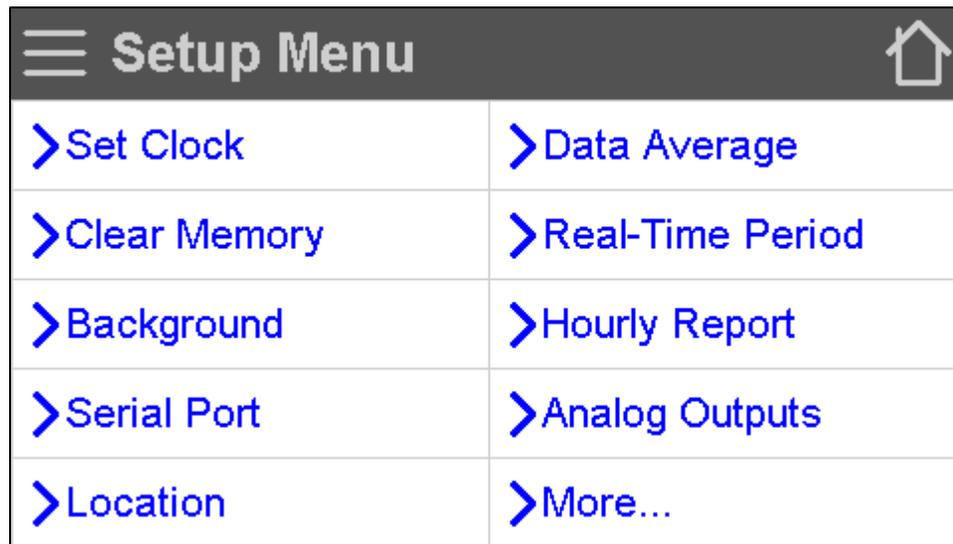
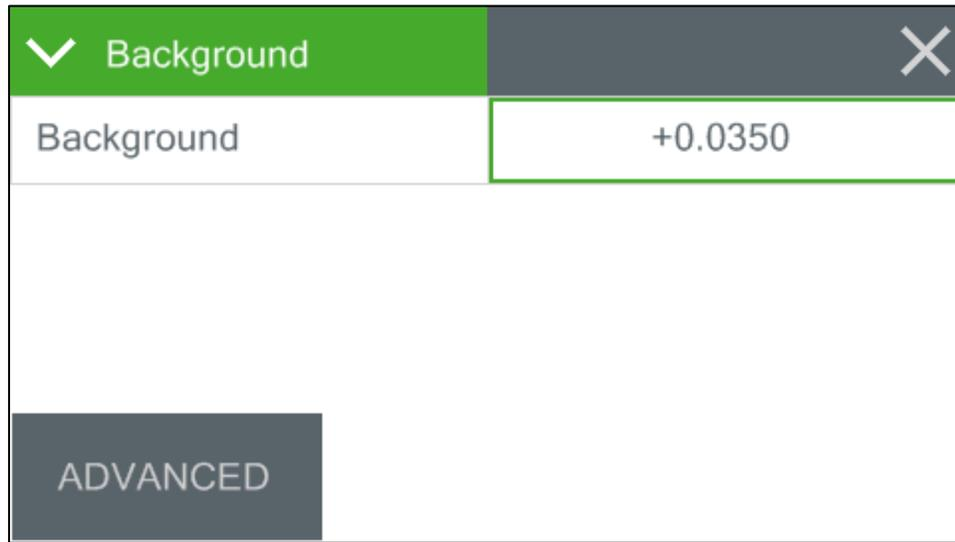

Figure AR-23. BAM 1022 Setup Menu Screen
Figure AR-24. BAM 1022 Background Screen
8. The Setup Menu will display as shown in Figure AR-23. Request the operator to press Background to obtain the coefficient (Figure AR-24)